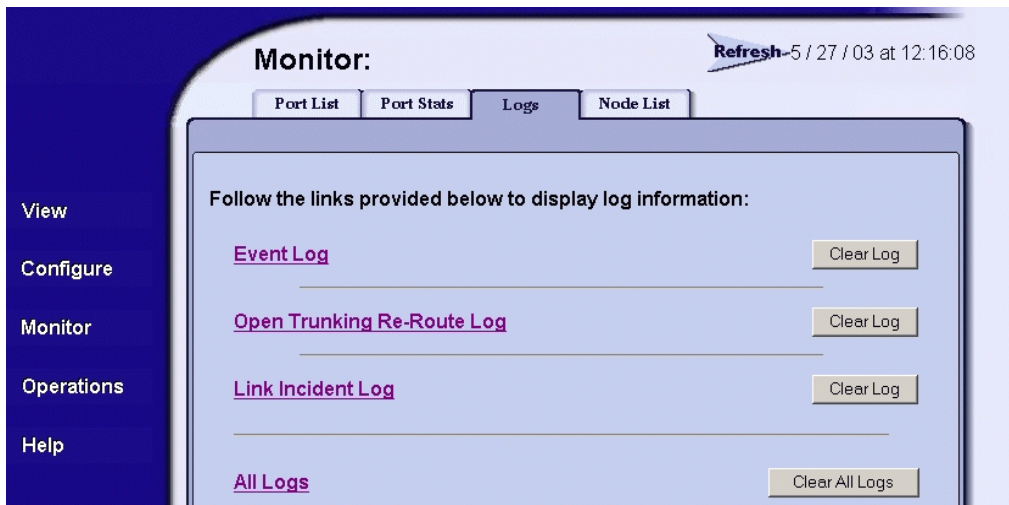

Figure 3-5 Monitor Panel (Logs Page)
- Click the *Logs* tab. The *Logs* page displays (Figure 3-5).